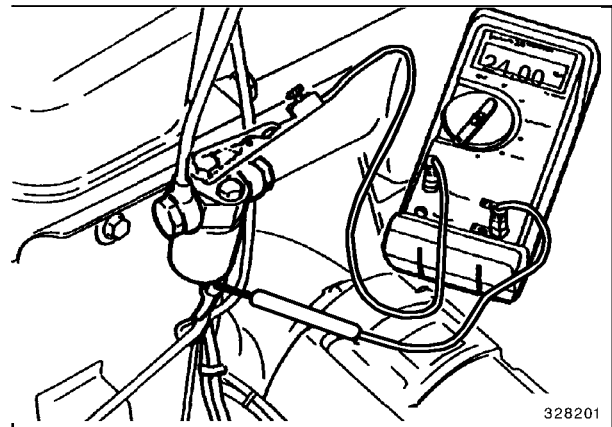

Fig. 2
2. Checking with the multimeter (Fig. 2)